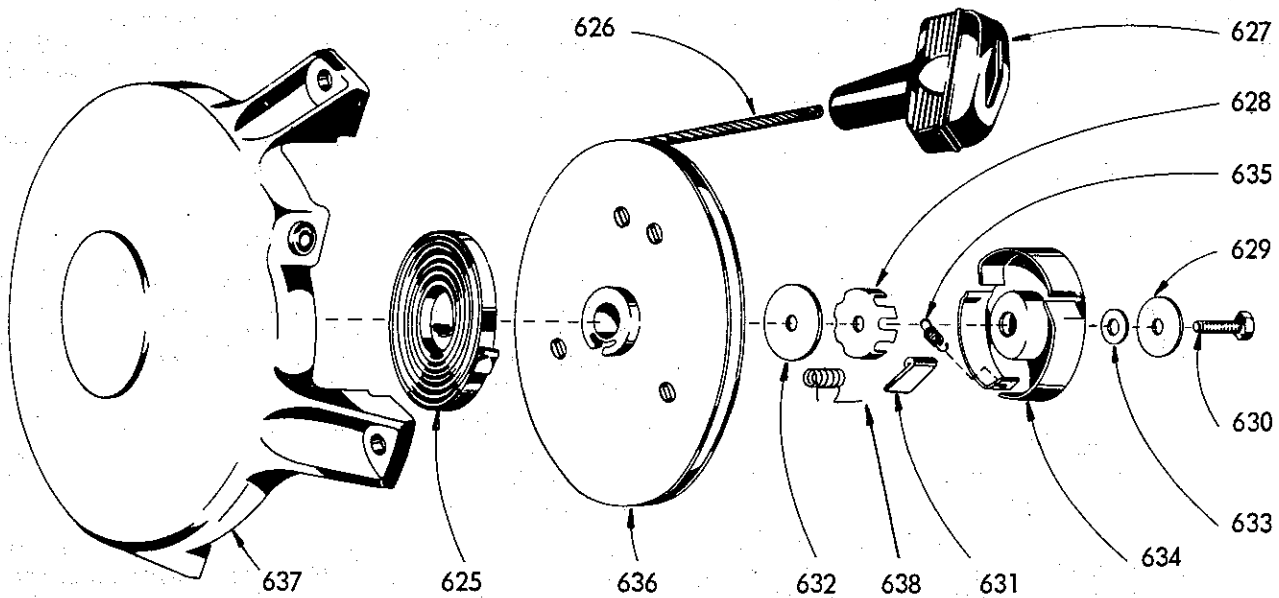

FIG. 6
With reference to Fig. 6; to remove *handle* (627), pull cord out about two feet and tie a knot to prevent cord from rewinding on to pulley. Untie double knot at top of handle and remove. Loosen *center screw* (630) about two turns so that brake action is free.
With reference to Fig. 6, assemble washers (633) and (629). Mount *center screw* (630) and torque 115 to 135 inch pounds.